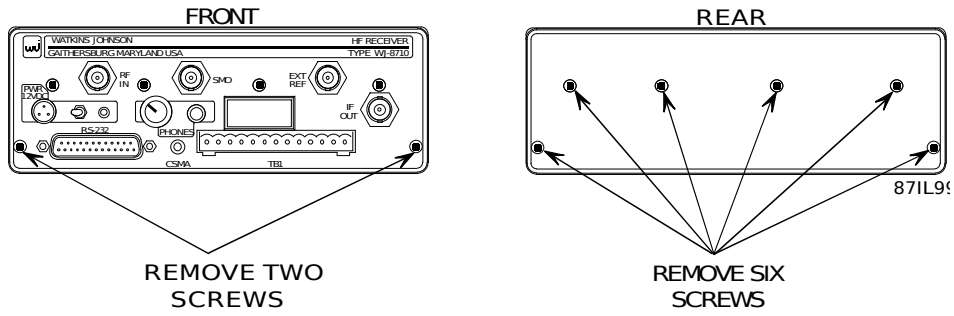

Figure 2-1. Detaching the Enclosure from the Main Chassis
2. Remove two black pan-head screws from the lower left and right corners of the front panel (**Figure 2-1**).
3. Remove four flat-head screws and two pan-head screws from the rear panel (**Figure 2-1**).